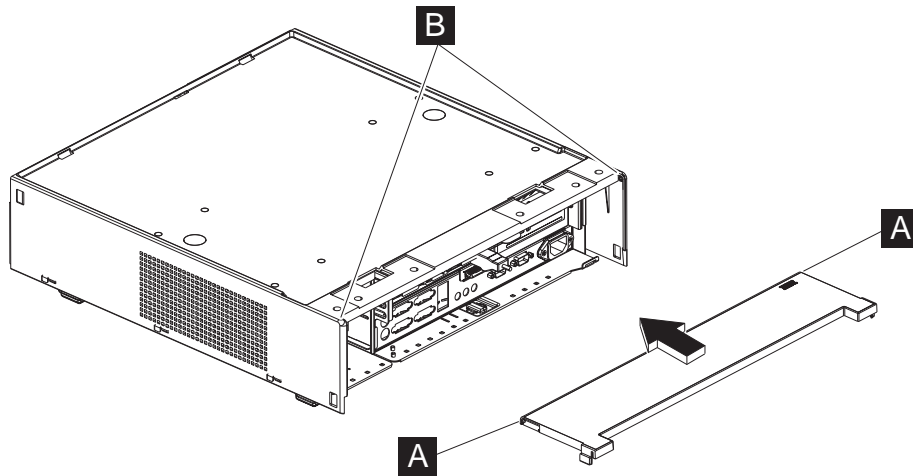

Figure 25. Installing the rear door
2. Install the rear door by holding it in a horizontal position. Insert one hinge pin (**A** in Figure 25) into the receptacle (**B**) on one side of the system unit. Press the opposite hinge pin and insert it into its receptacle from above, to snap it into place.